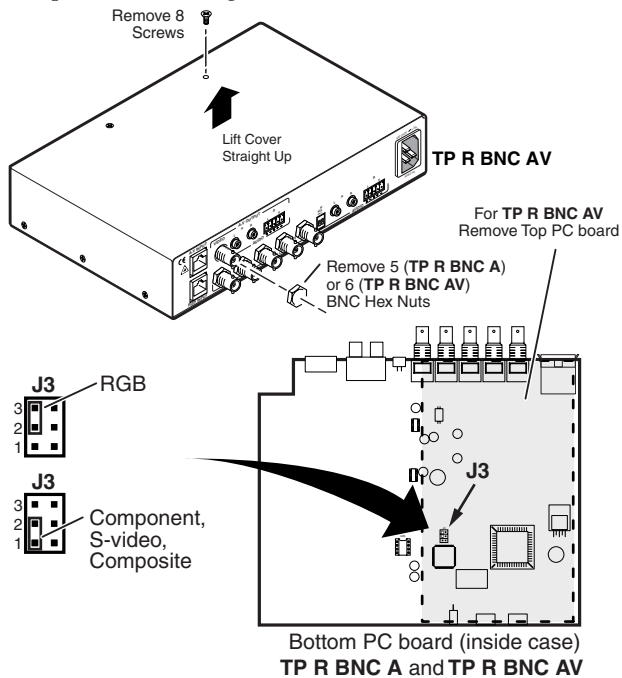

Figure 2-1 — Video jumper configuration
1. Remove the three screws on each side and the two screws on top of the cover (figure 2-1).
5. Locate J3 on the RGB video printed circuit board. See figure 2-1.